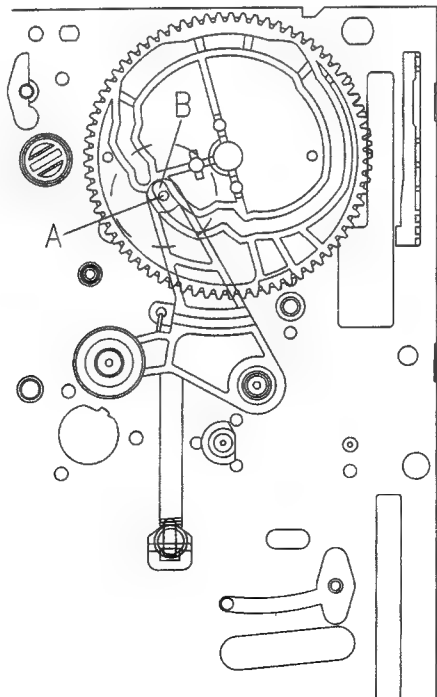

Fig.4-4 DATUM POSITION OF PINCH LEVER TOTAL ASS'Y & CAM GEAR
- d. Make sure that the boss "A" of the PINCH LEVER TOTAL ASSEMBLY is positioned at the point "B" of the CAM GEAR as shown in Fig.4-4.